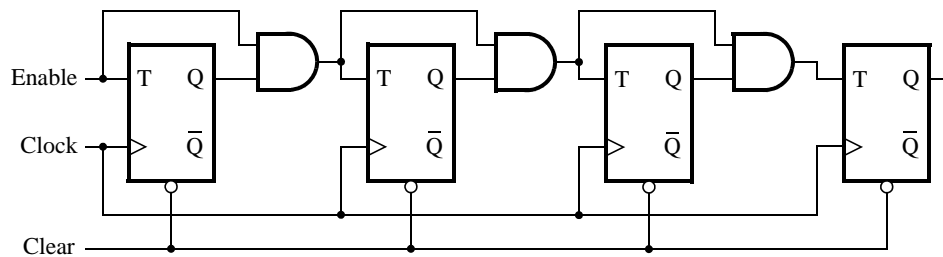

Figure 1: A 4-bit counter.
Consider the circuit in Figure 1. It is a 4-bit synchronous counter which uses four T-type flip-flops. The counter increments its value on each positive edge of the clock signal if the *Enable* signal is high. The counter is reset to 0 on the next positive clock edge if the synchronous *Clear* input is low. You are to implement an 8-bit counter of this type.
1. Write a Verilog file that defines an 8-bit counter by using the structure depicted in Figure 1. Your code should include a T flip-flop module that is instantiated eight times to create the counter. Compile the circuit. How many logic elements (LEs) are used to implement your circuit?
5. Implement a four-bit version of your circuit and use the Quartus® RTL Viewer to see how the Quartus software synthesized the circuit. What are the differences in comparison with Figure 1?